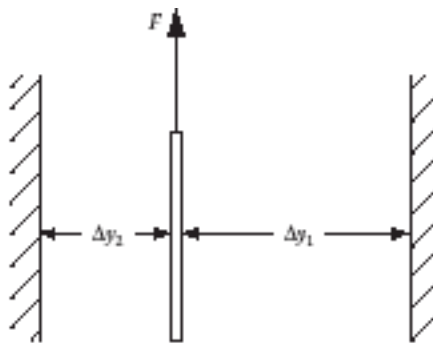

FIGURE P1.24
- 1.24 In Figure P1.24, the total space between stationary boundaries is 1 cm. Ethylene glycol is placed on the left side and propylene glycol on the right. When the infinite plate that separates the liquids is pulled upward, it finds an equilibrium position. Determine the lateral location of the plate if it has a thickness of 1 mm.
- 1.26 Figure P1.24 illustrates an infinite plate being pulled upward in a space filled with ethyl alcohol on the right and an unknown fluid on the left. The plate is not equidistant from the boundaries; in fact, $\Delta y_1 = 2\Delta y_2$. Determine the viscosity of the unknown fluid.